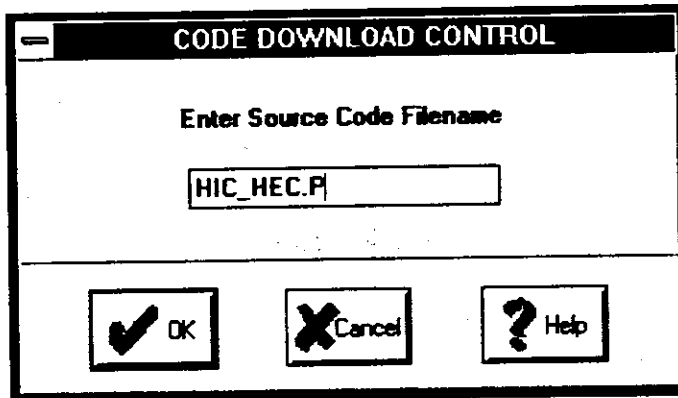

Figure 4-9. HIC Source Code Filename in CODE DOWNLOAD CONTROL Dialog
- e. In the box below *Enter Source Code filename*, type in the name of the file to be downloaded: HIC_HEC.P (see Figure 4-9). Click on **OK**.